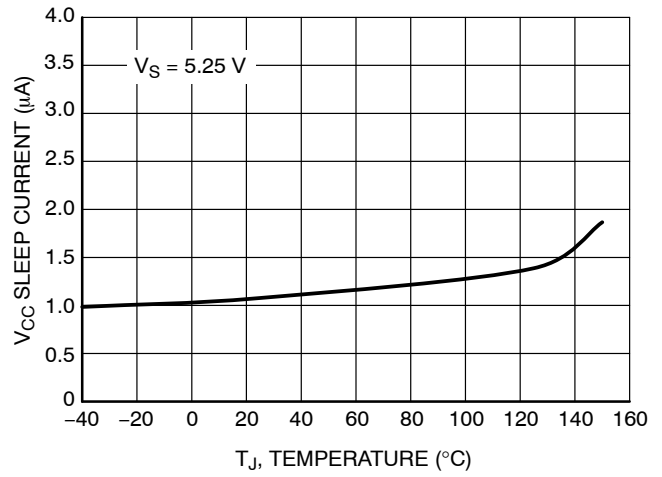

Figure 7. V_{CC} Sleep Supply Current vs. Temperature
6. For temperatures above 85°C , refer to Figure 7.